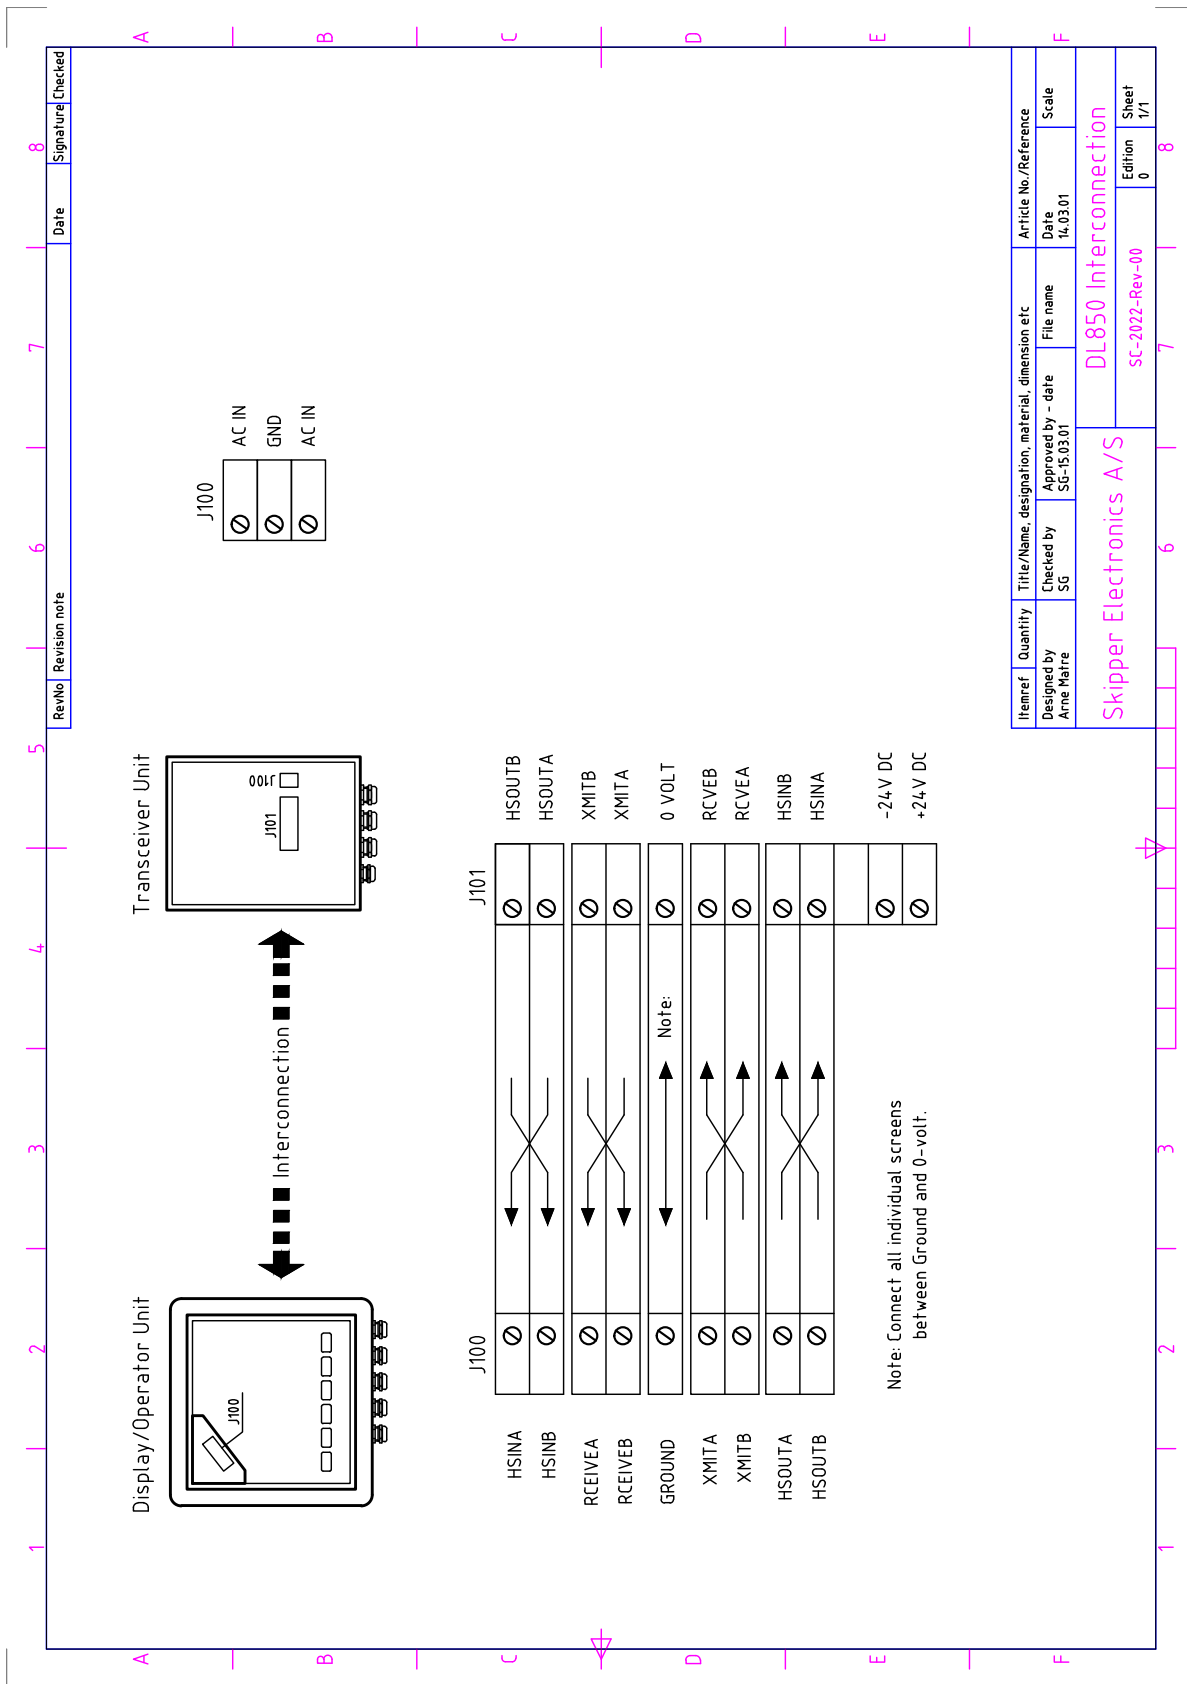

Fig. 10.4. Transceiver unit - operator unit interconnection
- Fig. 10.4. Interconnection diagram between the operator unit and the transceiver unit. See “Operator Unit - Transceiver Unit Interconnection” on page 71.